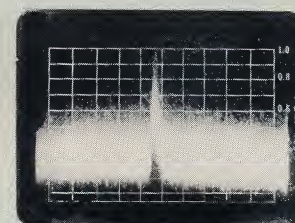

FIGURE 7
**Sensitivity (CW):** Analyzer rating for measurement of periodic, resolved signals. For low frequency analyzers: Minimum rms level of a frequency for full scale deflection. For microwave analyzers: Minimum CW signal rated at 6 db above residual noise level; i.e., Signal plus noise deflections = twice x noise deflection. (See Figure 7)
**Flatness of Response: (Sensitivity variation)** (1) "In-band Flatness"; Uniformity of amplitude response over the rated maximum "Sweep Width" of an analyzer. (2) Sensitivity variation; over the entire rated frequency range.